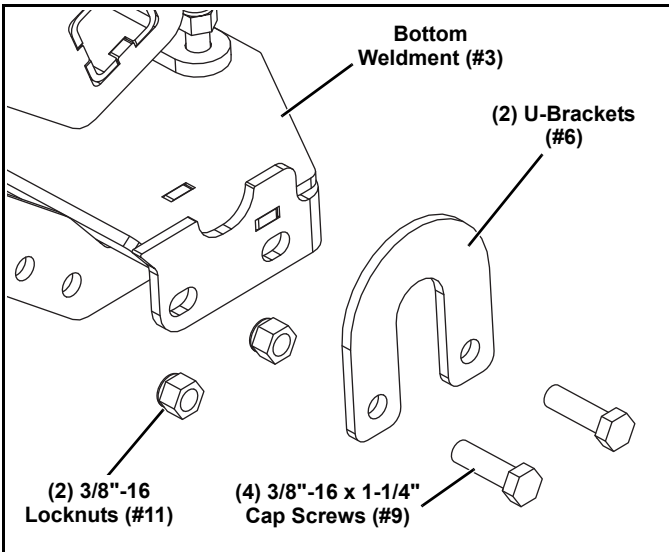

Figure 5
6. On the driver and passenger side, place a U-Plate (#6) over the tube at the bottom of the brush guard. Secure the U-Brackets (#6) to the Bottom Weldment (#3) with (4) 3/8"-16 x 1-1/4" Cap Screws (#9) and (4) 3/8"-16 Locknuts (#11). (See Figure 5).